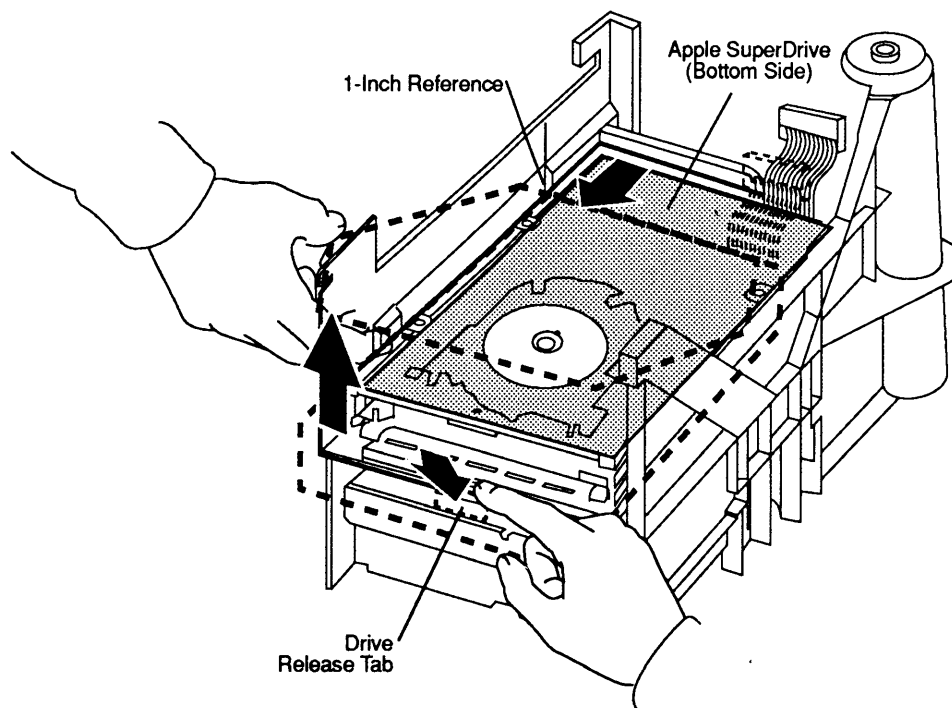

Figure 2-13 Floppy Disk Drive
9. Turn over the disk drive mount and gently push down on the latch (**Figure 2-13**) that holds the front of the floppy disk drive.
10. Move the floppy disk drive toward the front of the mount one inch (see **Figure 2-13**). Pull the front of the floppy drive away from the mount; the rest of the drive will follow. Remove the drive.